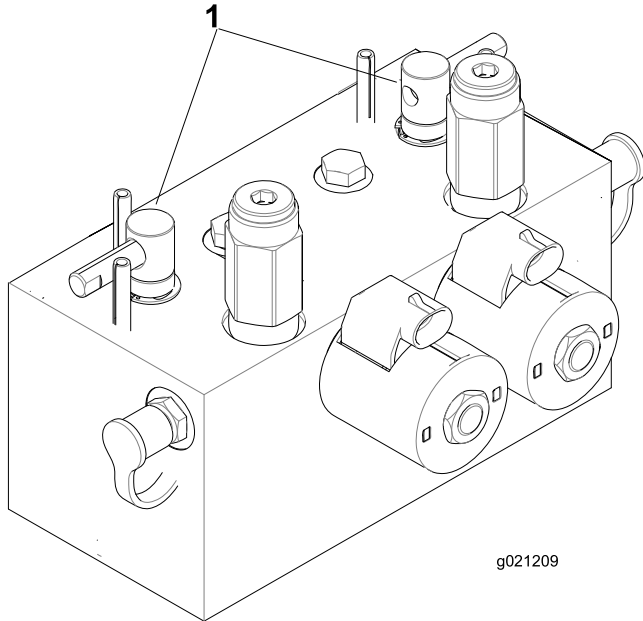

Figure 77
2. Unlock and raise the seat to expose the backlap levers (Figure 77).
5. Select either the front, rear, or both backlap levers to determine which units to backlap (Figure 77).